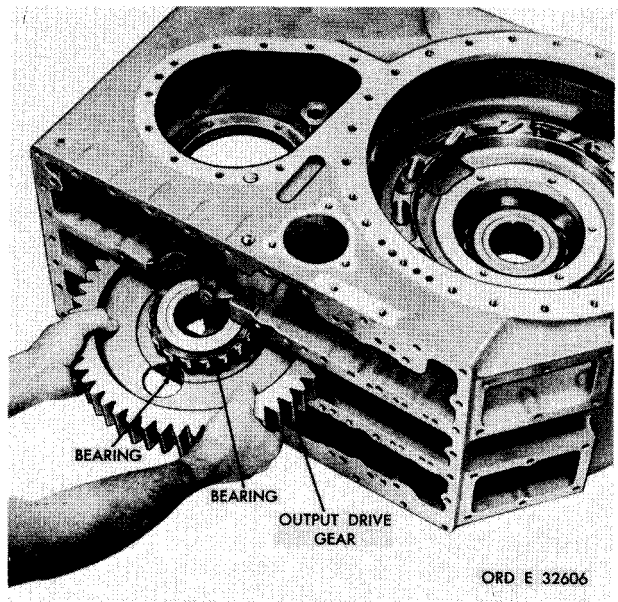

Figure 187. Removing (or installing) output drive gear
aq. Remove the output drive gear with inner-bearing assemblies (fig. 187). Do not remove the inner bearing assemblies from the gear unless replacement is necessary.
i. If bearings were removed from the output drive gear, install an inner-bearing race assembly on each side of the gear (fig. 187). Press bearings until they are firmly seated on the gear.
j. Install the output drive gear with the bearing inner-race assemblies into the rear housing (fig. 187).